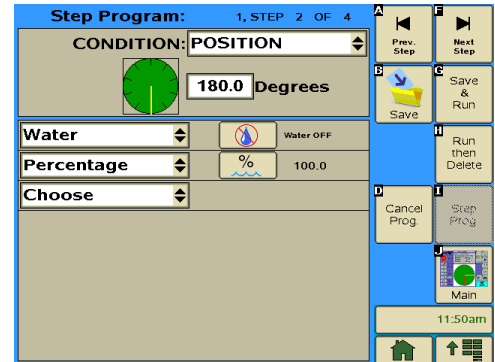

Figure 123-1
6. Program the position condition for this step. Refer to Figure 123-1.